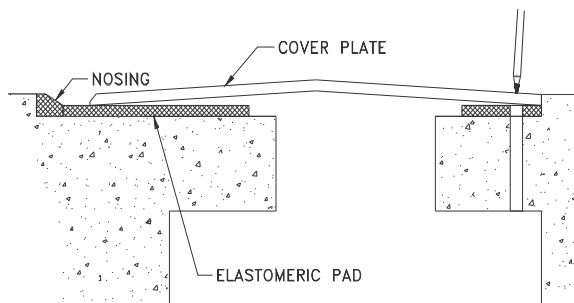

Figure 17
**STEP 35.** Mark the location of each anchor hole on the plate. The anchor holes must align with the anchor sleeves cast into the concrete (see Figure 17).